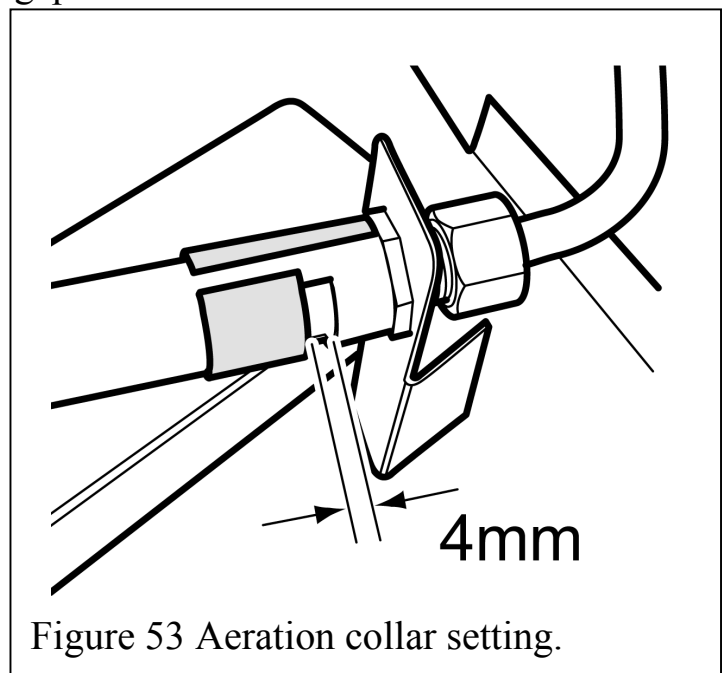

Figure 53 Aeration collar setting.
- **The aeration collar is factory set.** If the gap at the rear of the mixer tube is different to that shown in figure 53 see below.
- The aeration collar should be positioned so that the opening in the rear of the mixer tube is partially closed. Slide the aeration collar towards the injector as far as it will go. The gap should be 4mm (See figure 53).